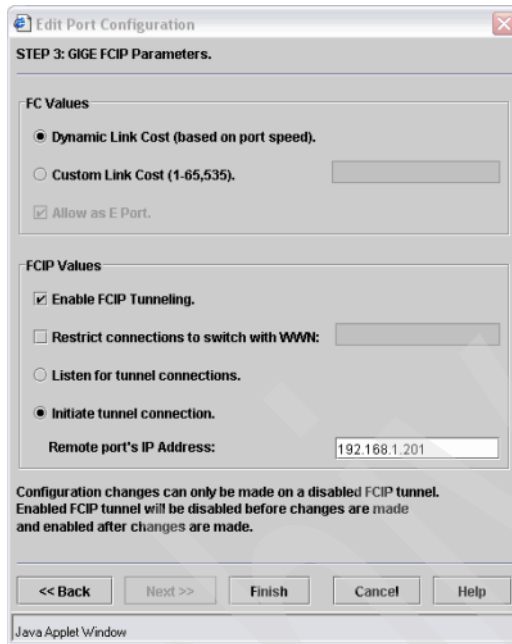

Figure 6-49 Specific FCIP Parameters
5. Here, we have two sets of configuration values (Figure 6-49). FC Values specifically relate to link cost. The link cost is used by FSPF to build the routing tables of paths through a fabric. There is no reason to manually adjust this in our configuration, so we leave the default setting of **Dynamic**.